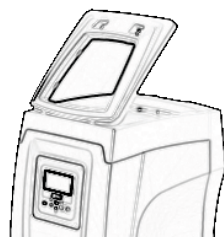

Figure 2
- **Face A:** a door allows access to the Technical Compartment. The door can be removed by inserting 2 fingers in the rubber grips, squeezing and rotating the door around the hinges on the side opposite the grips (see Fig.2). To put the door back in place, insert the hinges in their slots and close the door until it clicks.